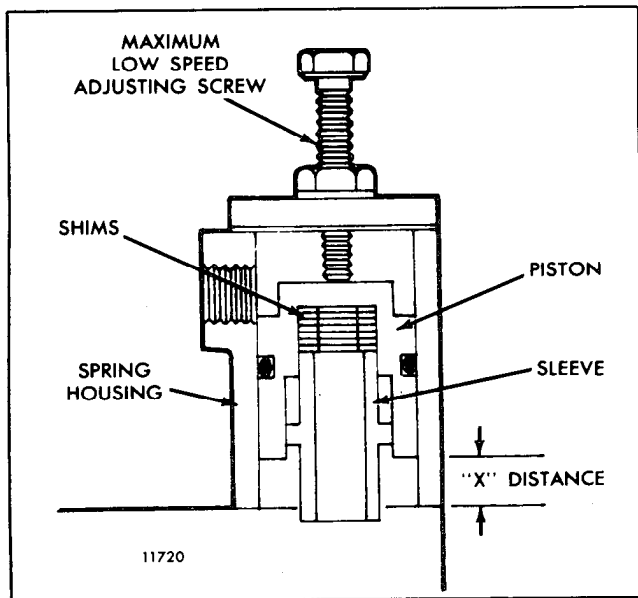

Fig. 8 - Dual Range Governor Spring Housing Assembly (Sectional View)
- d. Note the distance ("X" distance, Fig. 8) the piston is from the bottom of the spring housing when it is against the low maximum speed screw, then remove the sleeve from the piston.